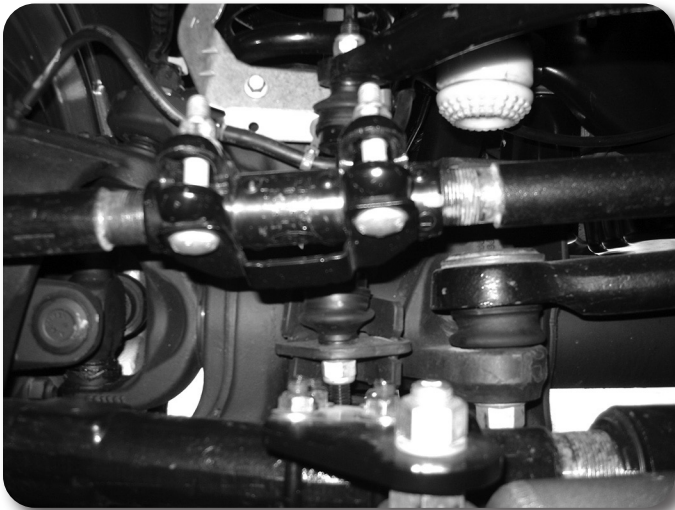
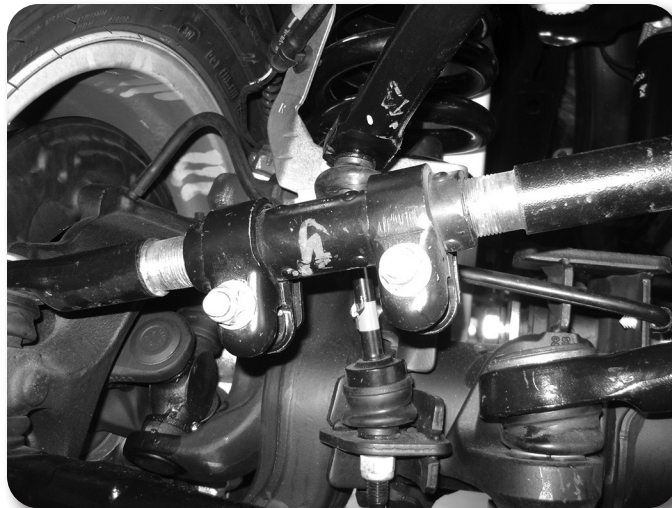

Figure 31A *Incorrect*
Figure 31B *Correct*
4. Adjust steering wheel with adjustment on the draglink, do NOT drive the vehicle with the steering wheel off-center or adverse traction control affects may arise. Rotate the clamps once the steering wheel is straight as shown. (Figure 31A - incorrect, clamps will interfere with sway bar, Figure 31B - correct clearance). Torque clamps to 41 ft-lbs. Thread the collar to lengthen the drag link.